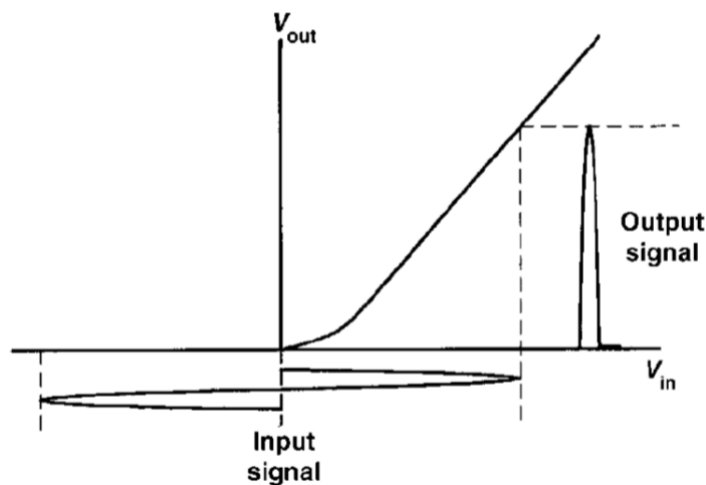

Figure 1.24 Class B operation (no bias applied)
- Now let's consider what will happen if no bias at all is applied to the amplifier as shown in Fig. 1.24.